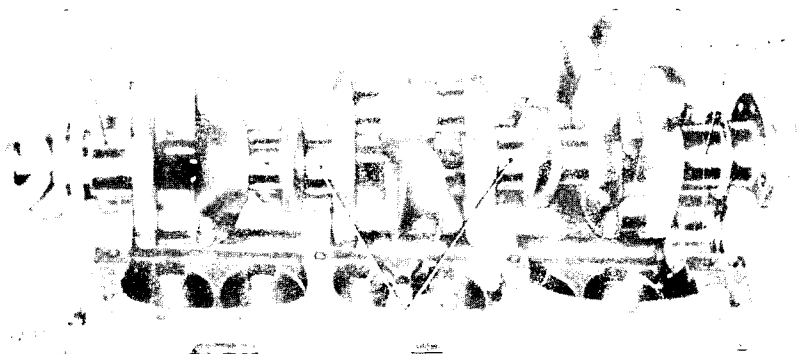

Figure 33. Removing crankshaft.
- (4) Remove all main bearing caps.
- (5) Lift crankshaft (fig. 33) out of cylinder block.
- (6) Remove rear oil seal retainers from both the cylinder block and the rear main bearing cap.